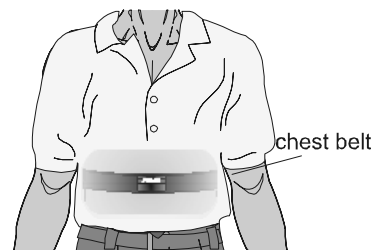

Figure 3
- d. Secure the transmitter belt against the skin directly over the base of the rib cage (see Figure 3). The POLAR logo on the front of the belt should be centered. Adjust the elastic strap to ensure a tight fit.